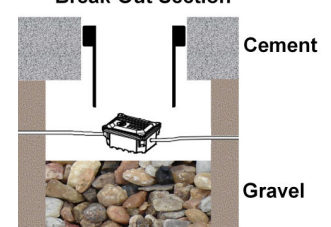

Fig.4
6. Install the pre-set. (Fig.4)